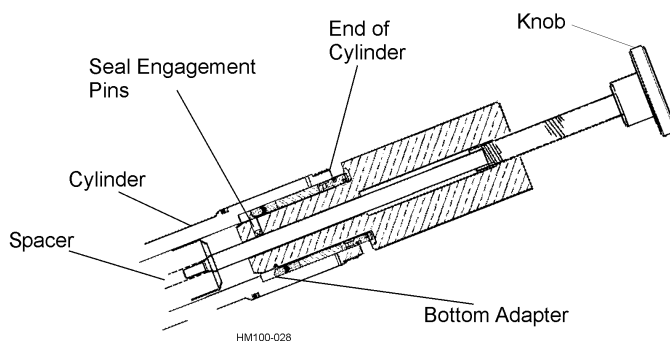

Figure 33 Seal Puller
3. Place the seal puller inside the cylinder and push it in as far as it will go. (It will bottom out against the end of the cylinder.) See Figure 33
5. Screw the knob counterclockwise to retract the pins and remove seals. See Figure 33